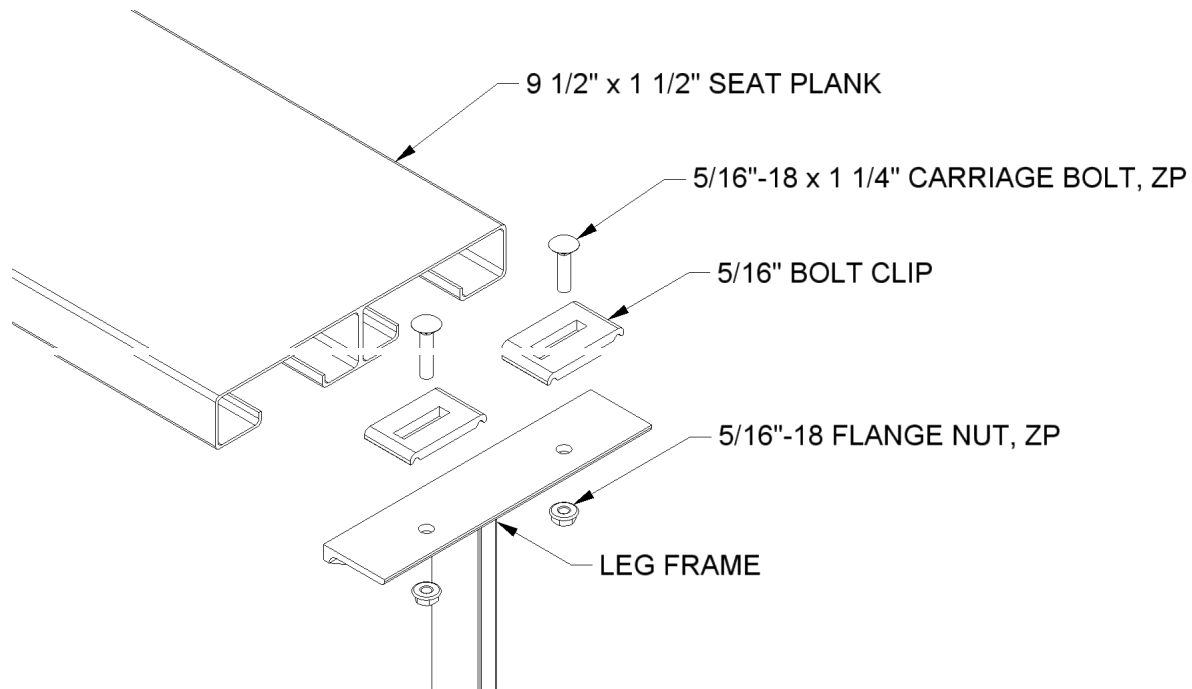
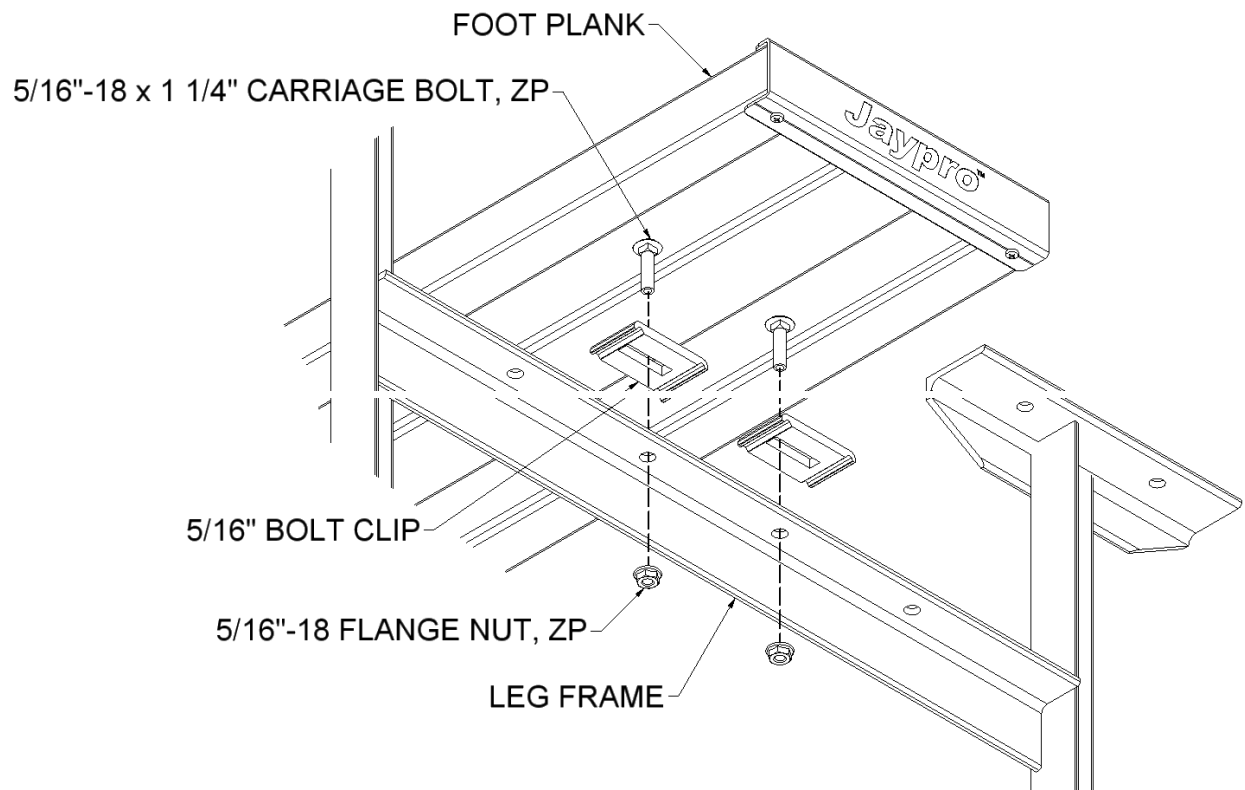
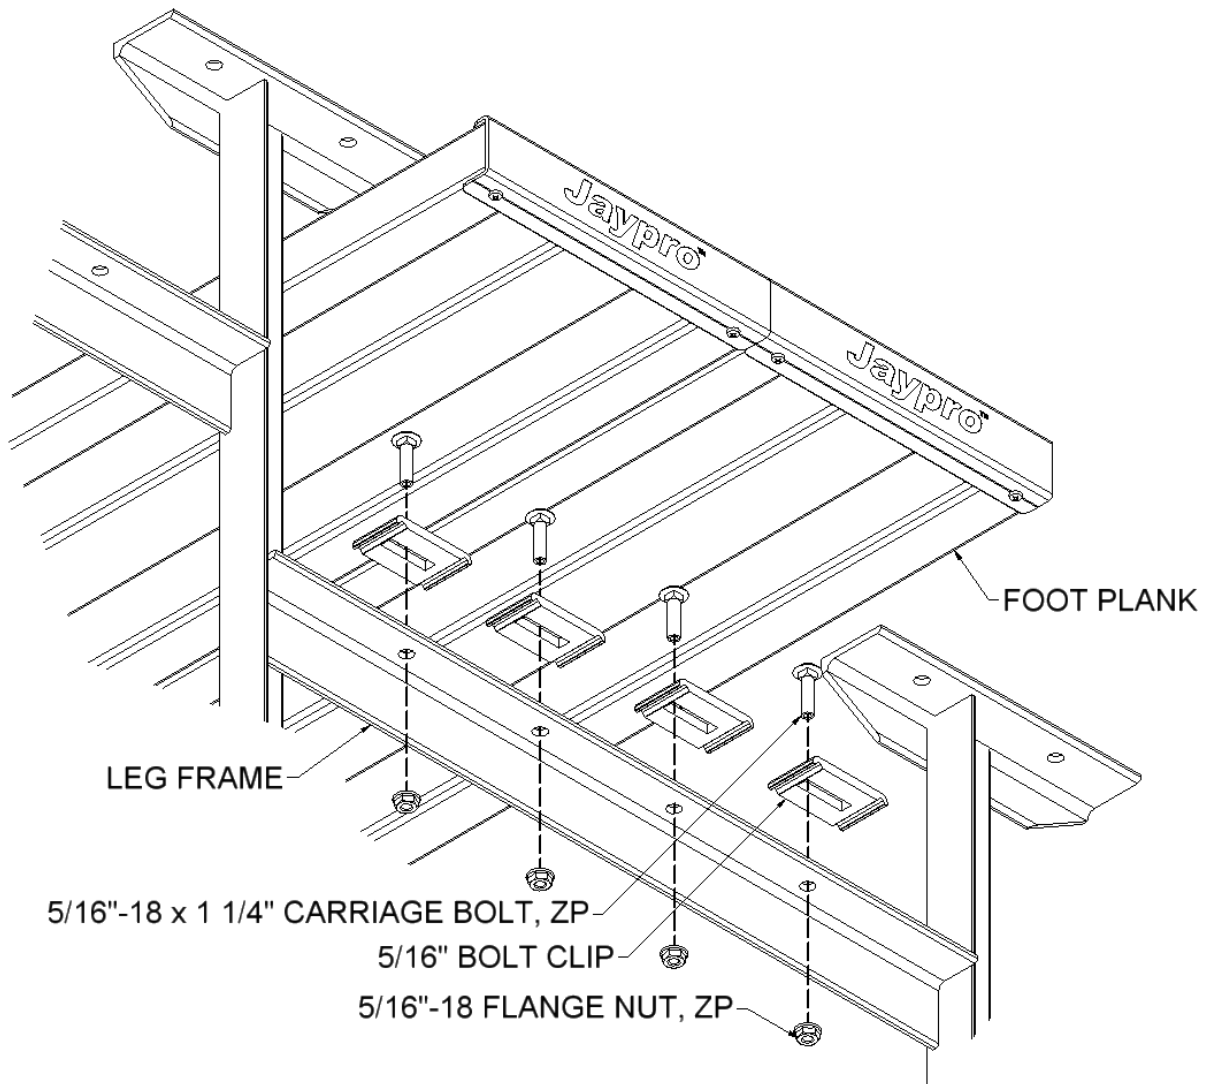

Figure 5
Figure 6 (SINGLE FOOT PLANK)
Figure 7 (DOUBLE FOOT PLANK)
5. Making sure the undercarriage frame is square and plumb, install the seat and foot planks. The seat and foot planks are best installed starting from the front seat and working towards the back. Use the hardware and bolt clip as shown in figure 5. Position planks so they are centered on the frame, with equal amount of overhang on each end. Note that standard bleachers (BLCH-4AL & BLCH-4TRG) have a single foot plank, which is centered on the support frame, see figure 6. Preferred bleachers (BLDP- 4AL & BLDP-4TRG) have double foot planks and are installed as shown in figure 7.